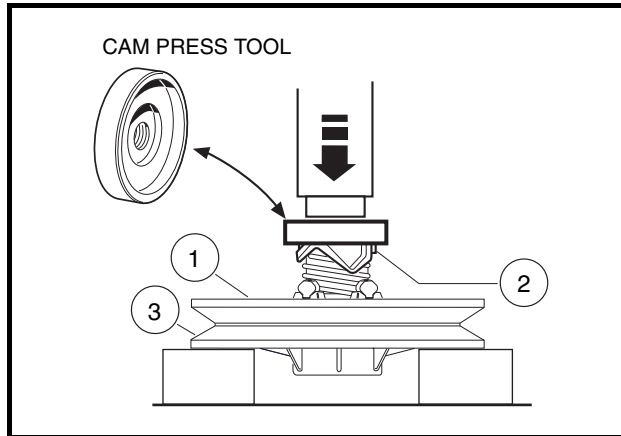

Figure 17-19 Cam Press Tool
- 5.1.1. Place the clutch assembly in a press and position the cam press tool (CC P/N 101809101) on the cam as shown (Figure 17-19, Page 17-16).
- 5.1.2. Hold the fixed face assembly (3) and rotate the moveable face assembly (1) one-third turn clockwise, then press the cam (2) onto the fixed face assembly (Figure 17-19, Page 17-16).
- 5.2.4. Hold the clutch assembly and cam installation tool together and place the fixed face down on spaced blocks as illustrated (Figure 17-19, Page 17-16).